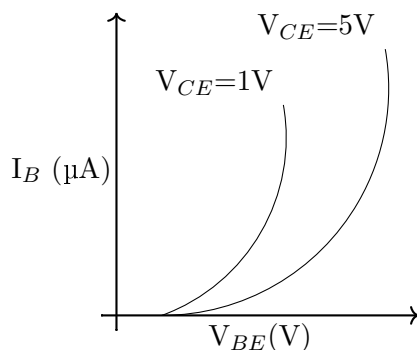

Figure 10.5: Input characteristics
5. Plot graph (e.g. as shown in figure.10.5) of  $I_B$  (along Y-axis) against  $V_{BE}$  (Along X-axis).